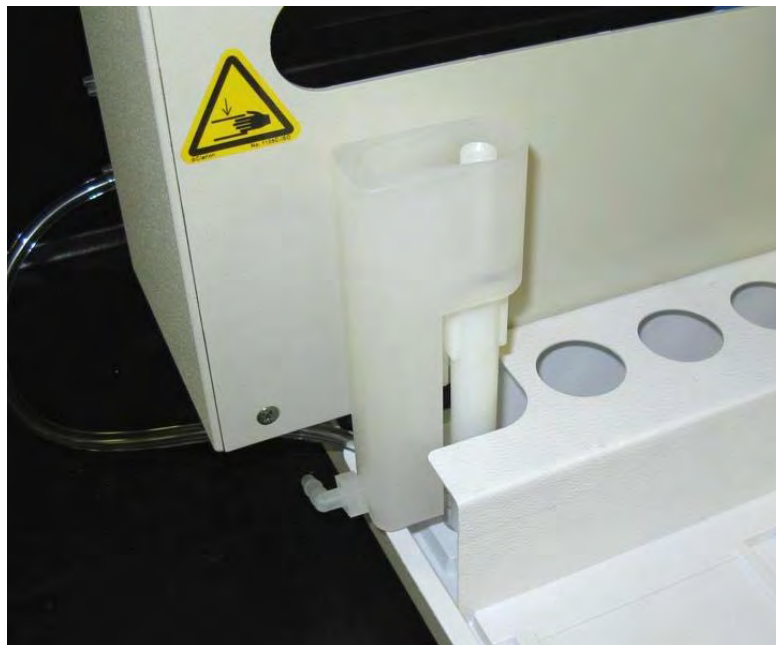
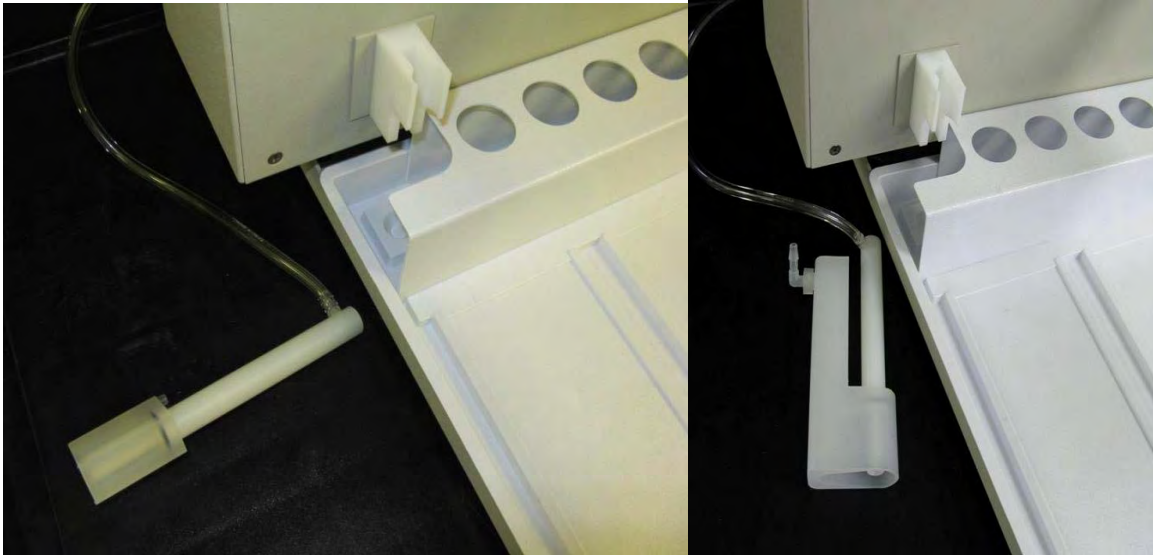

Figure 1-4. View of rinse station.
Figure 1-5. View of rinse stations removed from the front cover.
3. After the Z-drive assembly is removed, then remove the rinse station. See Figure 1-4. Turn the rinse station $\frac{1}{4}$ turn counter-clockwise while pulling up. Also, the tubing located at the bottom of rinse station will have to be removed or moved aside. See Figure 1-5.
4. Some Auto Samplers may have a different rinse station, although they both connect the same. See figure 1-5.